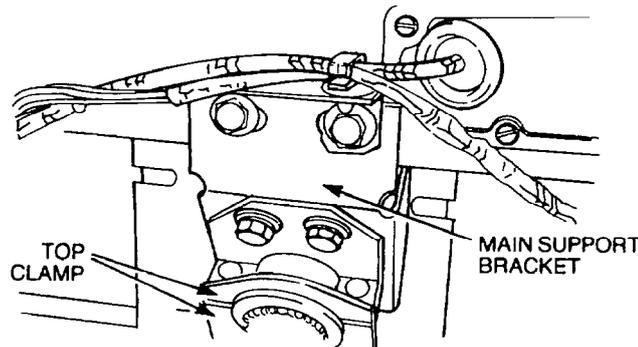

Figure 88 Steering Column Upper Mounting
- p.** Remove the bolts securing the halves of the top clamp and the bolts that secure the top half of the clamp to the firewall. Remove the clamp and rubber packing (Figure 88).
- b. Loosely secure the main support bracket to the firewall with the bolts (Figure 88).